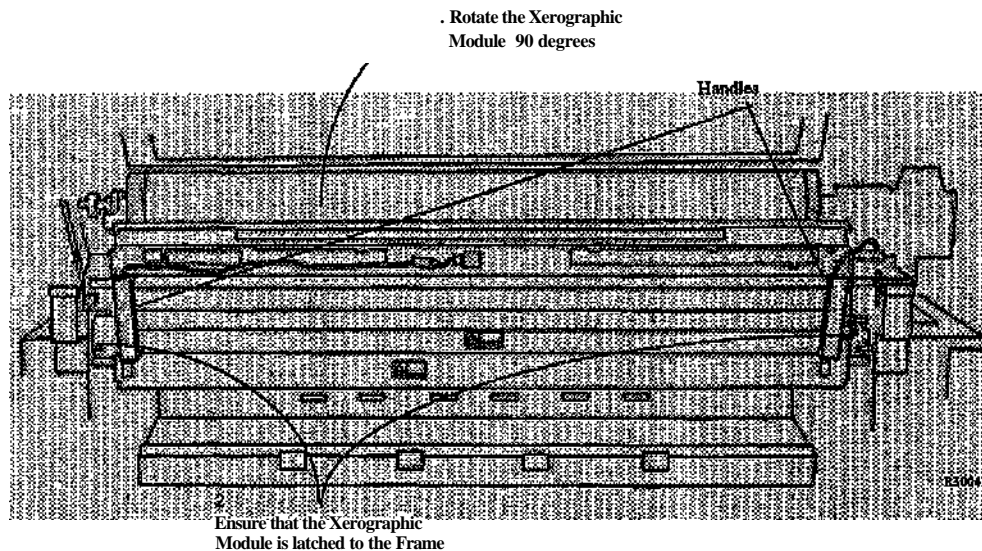

Figure 2. Latching the Xerographic Module at the Service Position
6. (Figure 2): Using the handles on the Web Oiler Assembly, rotate the Xerographic Module 90 degrees so that the latches lock into the holes in the frame.